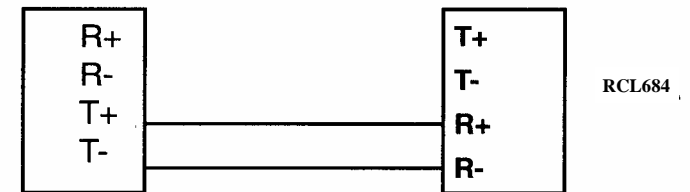
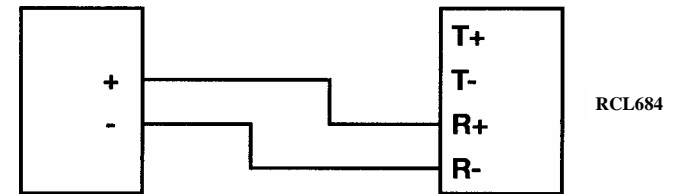

Figure 4-1. Wiring configuration for a 4-wire current loop LED test.
Figure 4-2. Wiring configuration for a 2-wire current loop LED test.
(1) Unplug the RCL684 from the AC outlet.
(2) Set the SWA switch to full duplex, passive.
(3) Attach the T- of the 4-wire current loop device (or “-” in a 2-wire current loop) to R- of the RCL684
(4) Attach the T+ of the 4-wire current loop device (or “+” in a 2-wire current loop) to R+ of the RCL684. See Figure 4-1 (4-wire current loop) or Figure 4-2 (2-wire current loop).
(5) Plug the RCL684 into the AC outlet.